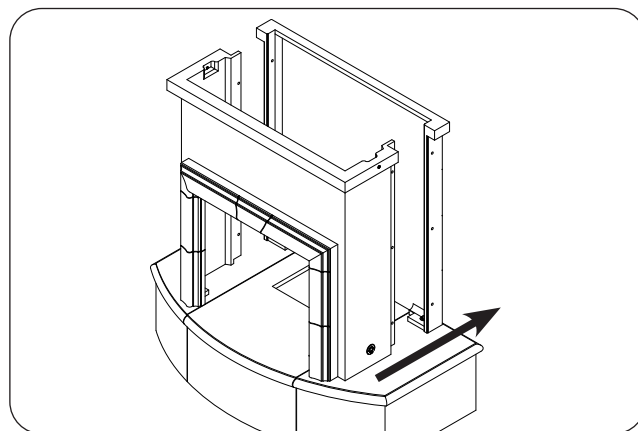

Fig. 24-2 Place body - front wall
2. Place the body front wall and align the pilot holes. See Fig. 24-2.